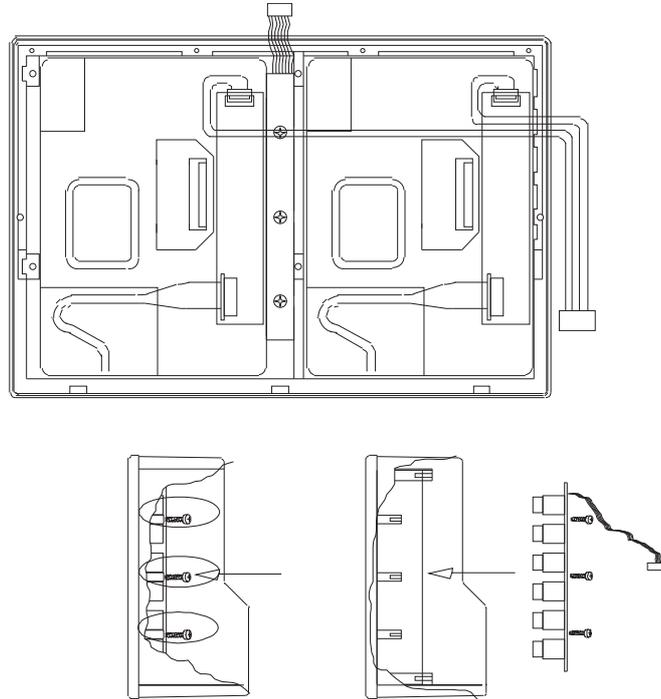

Fig. E 8-7: Installation of switch pcb to the new display unit
11. Place the switch pcb inside the new display unit and fix it by the use of the stored screws (Fig. E 8-7).